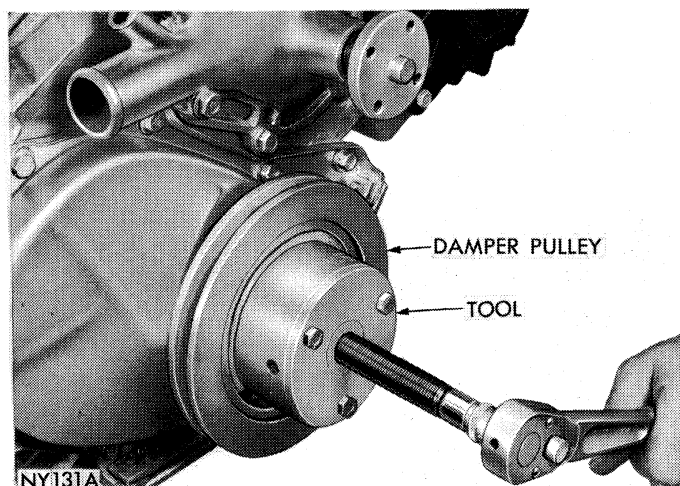

Fig. 17—Removing Vibration Damper Assembly with Tool C-3732A
- (1) Drain cooling system.
- (2) Remove radiator and fan.
- (3) Install Tool C-3732A and pull vibration damper assembly off end of crankshaft (Fig. 17).
- (4) Loosen oil pan bolts to allow clearance and remove chain case cover and gasket.